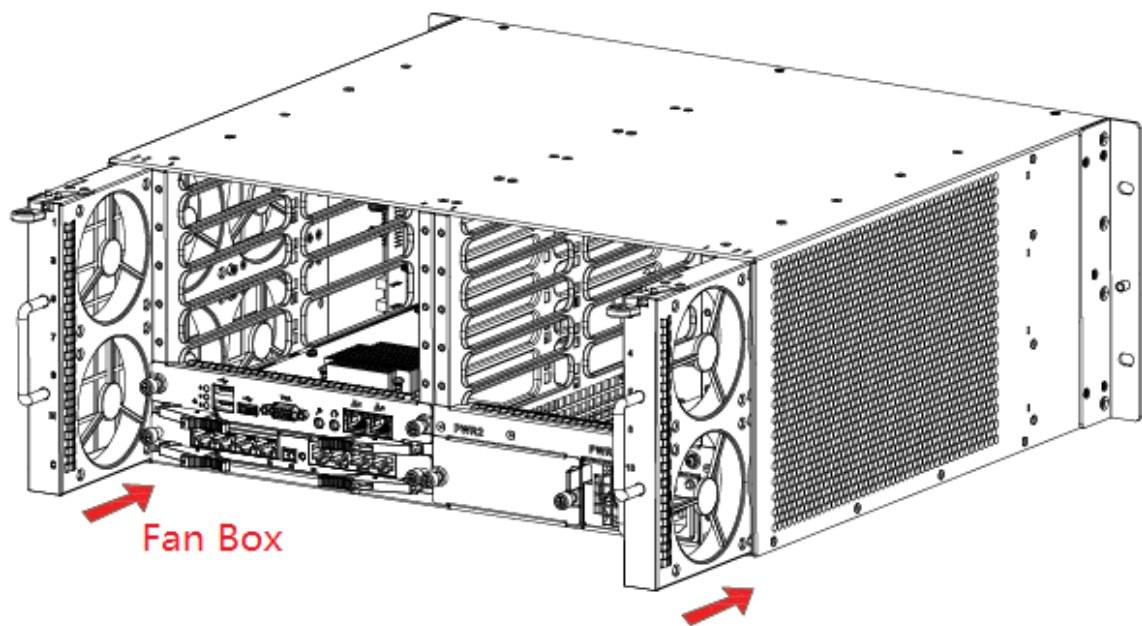

Figure 1-7
**Step 4** Insert left and right fan boxes into corresponding positions, until the top snap joint is fixed, as shown in Figure 1-7.